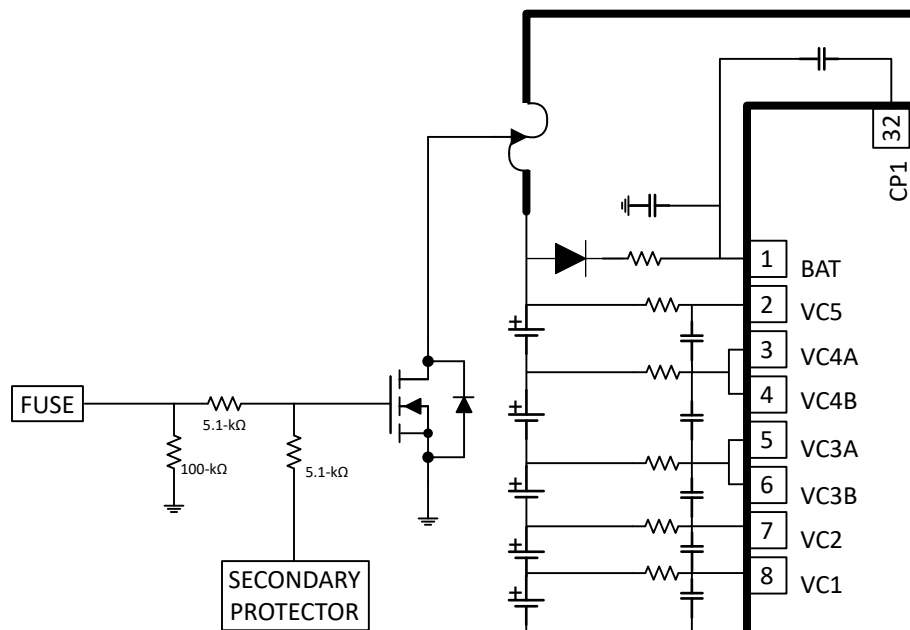

Figure 7-4. FUSE Pin Operation
The FUSE pin on the BQ76922 device can be used to blow a chemical fuse in the presence of a Permanent Fail (PF), as well as to determine if an external secondary protector in the system has detected a fault and is attempting to blow the fuse itself. The pin can drive the gate of an NFET, which can be combined with the drive from an external secondary protector, as shown in Figure 7-4. When the FUSE pin is not asserted by the BQ76922 device, it remains in a high-impedance state and detects a voltage applied at the pin by a secondary protector. The device can be configured to generate a PF if it detects a high signal at the FUSE pin.